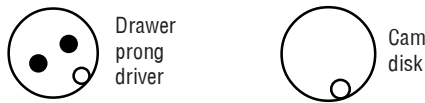

Fig. 2a - Installation of drawer prong driver and cam disk.
STEP 4 - Place the lock face side down on a flat surface. Install the drawer (W) prong driver first, then place the cam disk over the top in the orientation indicated in Fig. 2a.